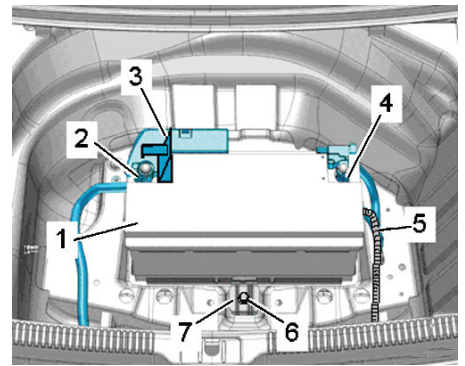

Fig. 4 Battery removal
8. **On all models**, loosen nut (4) a few turns, and remove ground cable terminal clamp from battery terminal, **Fig. 4**.
9. Open cover (3) over battery positive terminal, **Fig. 4**.
10. Loosen nut (2) several turns, and remove positive wire terminal clamp with fuse panel from battery terminal, **Fig. 4**.
11. Disconnect central venting system hose (5), **Fig. 4**.
12. Remove bolt (6) on battery mounting
bracket (7), **Fig. 4**.
13. Remove battery (1) from battery mount, **Fig. 4**.
2. Position battery bracket (7), **Fig. 4**. Lug at battery bracket must engage in recess at battery base strip.
3. Hand tighten battery bracket bolt (6), **Fig. 4**.
4. Connect central venting system hose (5), **Fig. 4**.
5. Connect positive cable terminal clamp (2) by hand to battery positive terminal and tighten nut, **Fig. 4**.
6. Connect ground wire terminal clamp (3) by hand to battery ground terminal and tighten nut, **Fig. 4**.